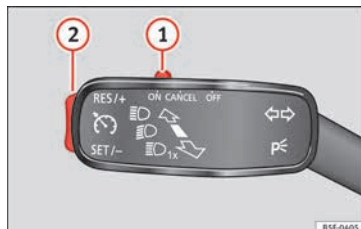

Fig. 187 Turn signal and main beam headlight lever: cruise control buttons.
- Move knob ①  Fig. 187 to the **ON** position.
- Briefly press rocker switch ② in **SET** position when you have reached the speed you wish to set.
- Press rocker switch ② »» Fig. 187 »» page 176 in **RES**.
- The set speed can be **reduced** by pressing switch ② »» Fig. 187 »» page 176 in **SET**.
- On releasing the switch at speeds of less than 30 km/h (19 mph), no speed will be set and the memory will be deleted. The vehicle must be moving at a speed of over 30 km/h (19 mph) and switch ② pressed again to **SET** for it to be set.
Cruise control is **switched off temporarily** by pressing switch ① »» Fig. 187 »» page 176 in **CANCEL** or by pressing the brake or clutch pedal.
- Move knob ① »» Fig. 187 »» page 176 to **OFF**.